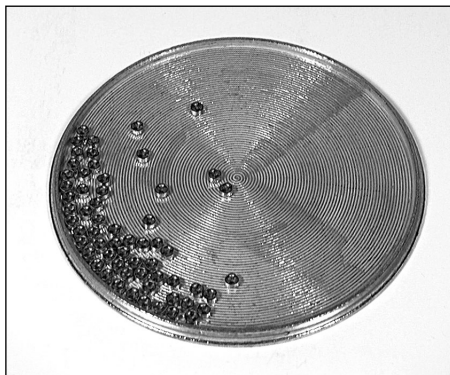

FIG 149
4. Slowly shake the flip tray until all the primers rest shiny side down **FIG 149**.